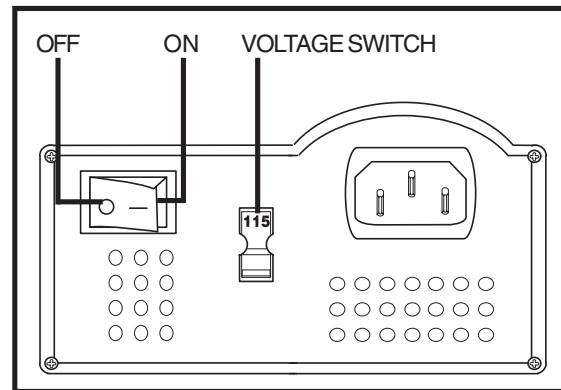

Figure 8. Charger On/Off and Voltage Switches
The off-board charger supplied with your scooter is equipped with a 115/230 voltage switch. Confirm that this switch is in the proper position for your locality. If you are not sure what the voltage is in your country, contact your local electricity provider before connecting the charger power lead to an electrical outlet. If the setting is incorrect, the charger will not function properly. Slide the voltage switch to the appropriate position. See figure 8.
6. Turn the charger on. See figure 8.